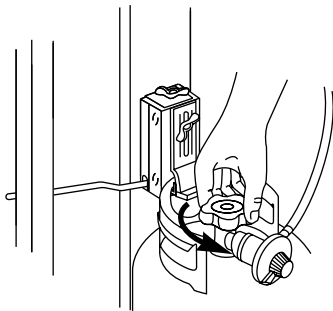

Figure 6
- e) Open the tank valve. Figure 6